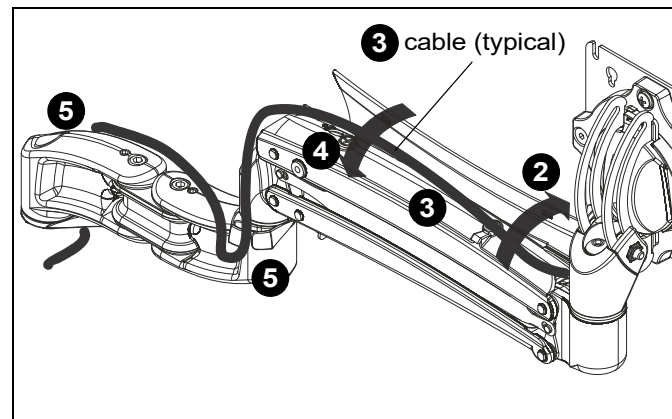

Figure 20
3. Route cables through cable management channel on upper arm. (See Figure 20)
4. Close cable management covers on monitor arm. (See Figure 20)
5. Route cables through cable clips on lower arm(s). (See Figure 20)